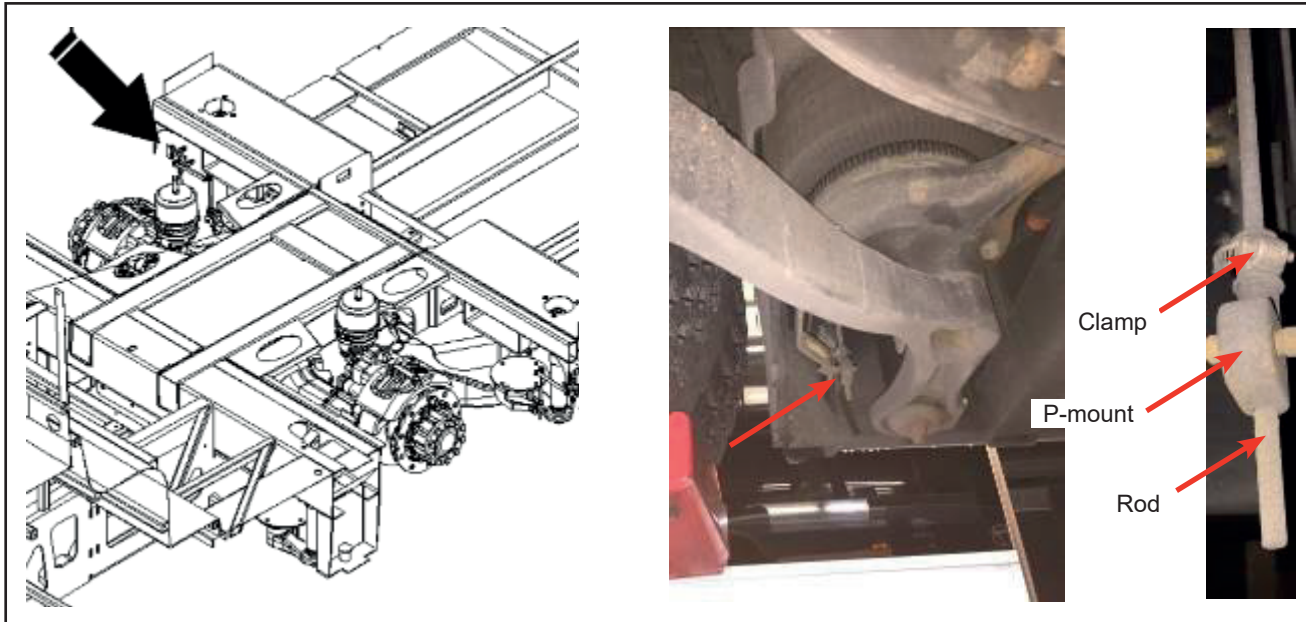

Figure 5 - Location of Airspring Mounting Plates
- 1.16. To decrease the distance between the air spring mounting plates, slowly slide the p-mount upwards and the rod downwards (See Figure 5).